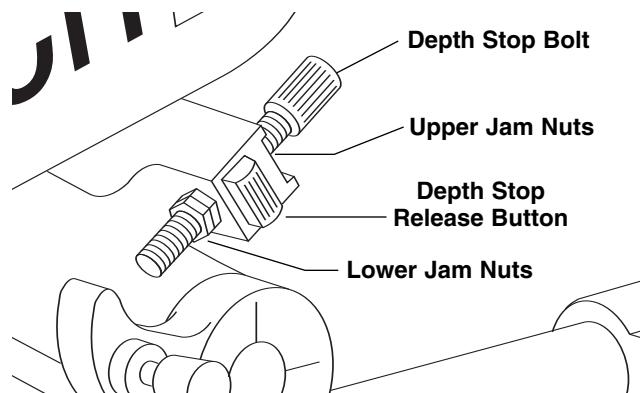

Figure 1. Cutting Grooves
- For major adjustments, press the depth stop release button and slide the depth stop bolt to the desired location (Figure 1).